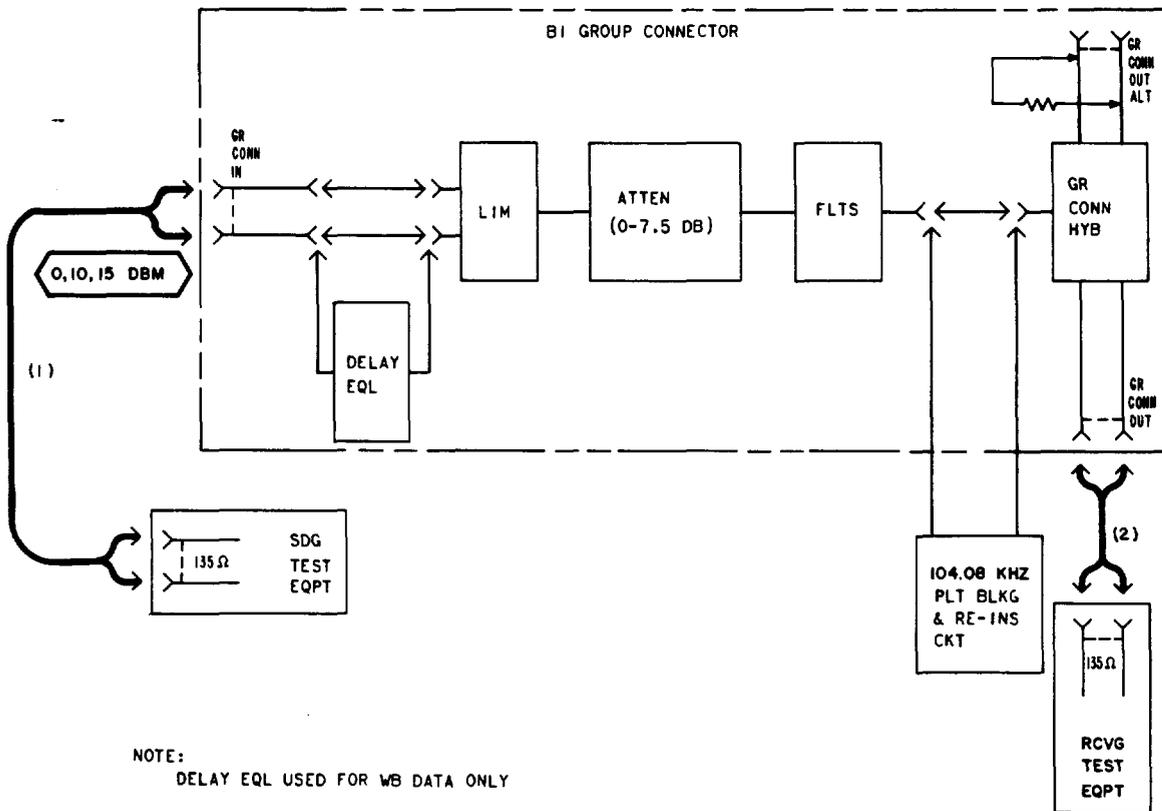

Fig. 7—B1 Group Connector—Out-Of-Service Level-Limiting Test
5	Connect the STE to the GR CONN IN jack [patch (1), Fig. 7].
6	Connect the RTE to the GR CONN OUT jack [patch (2), Fig. 7].
14	Remove patches (1) and (2) in Fig. 7.